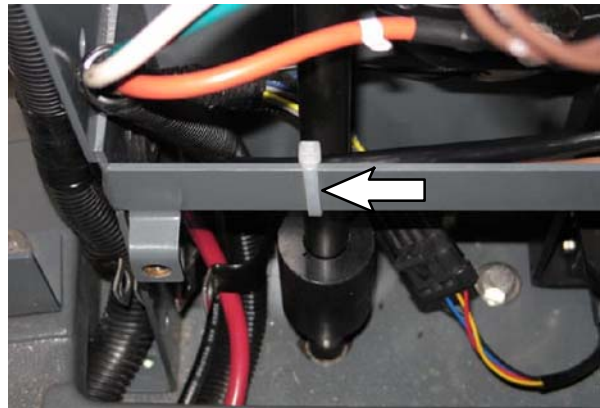

FIG. 39
13. Use a cable tie to secure the wire harness to the steering channel lower cross member to secure the wire harness away from the steering shaft (1). (Fig. 39)